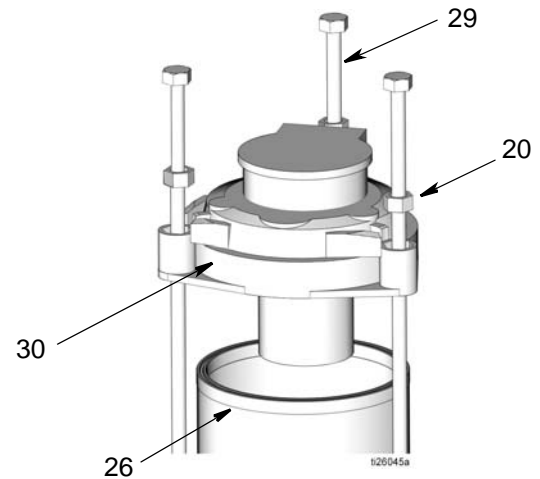

FIG. 58
12. Install cover over reservoir gasket (26). Install spacer (20) and tie rods (29) (FIG. 58).